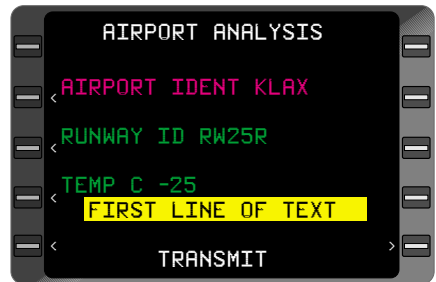

Figure 8-22
3. **ENTER** Key - DEPRESS. The **AIRPORT ANALYSIS** Page is displayed. See Figure 8-22.